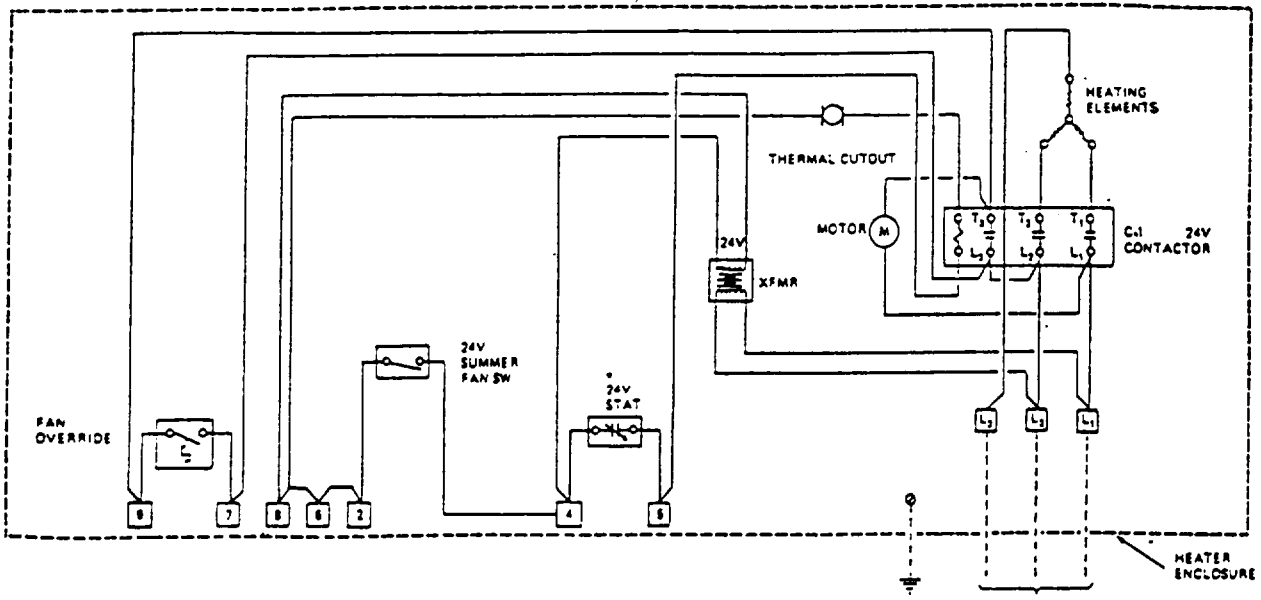

Figure 4-1. Electric Heater Wiring Diagram
**Refer to Figure 4-1 for Electric Heater Wiring Diagram.**